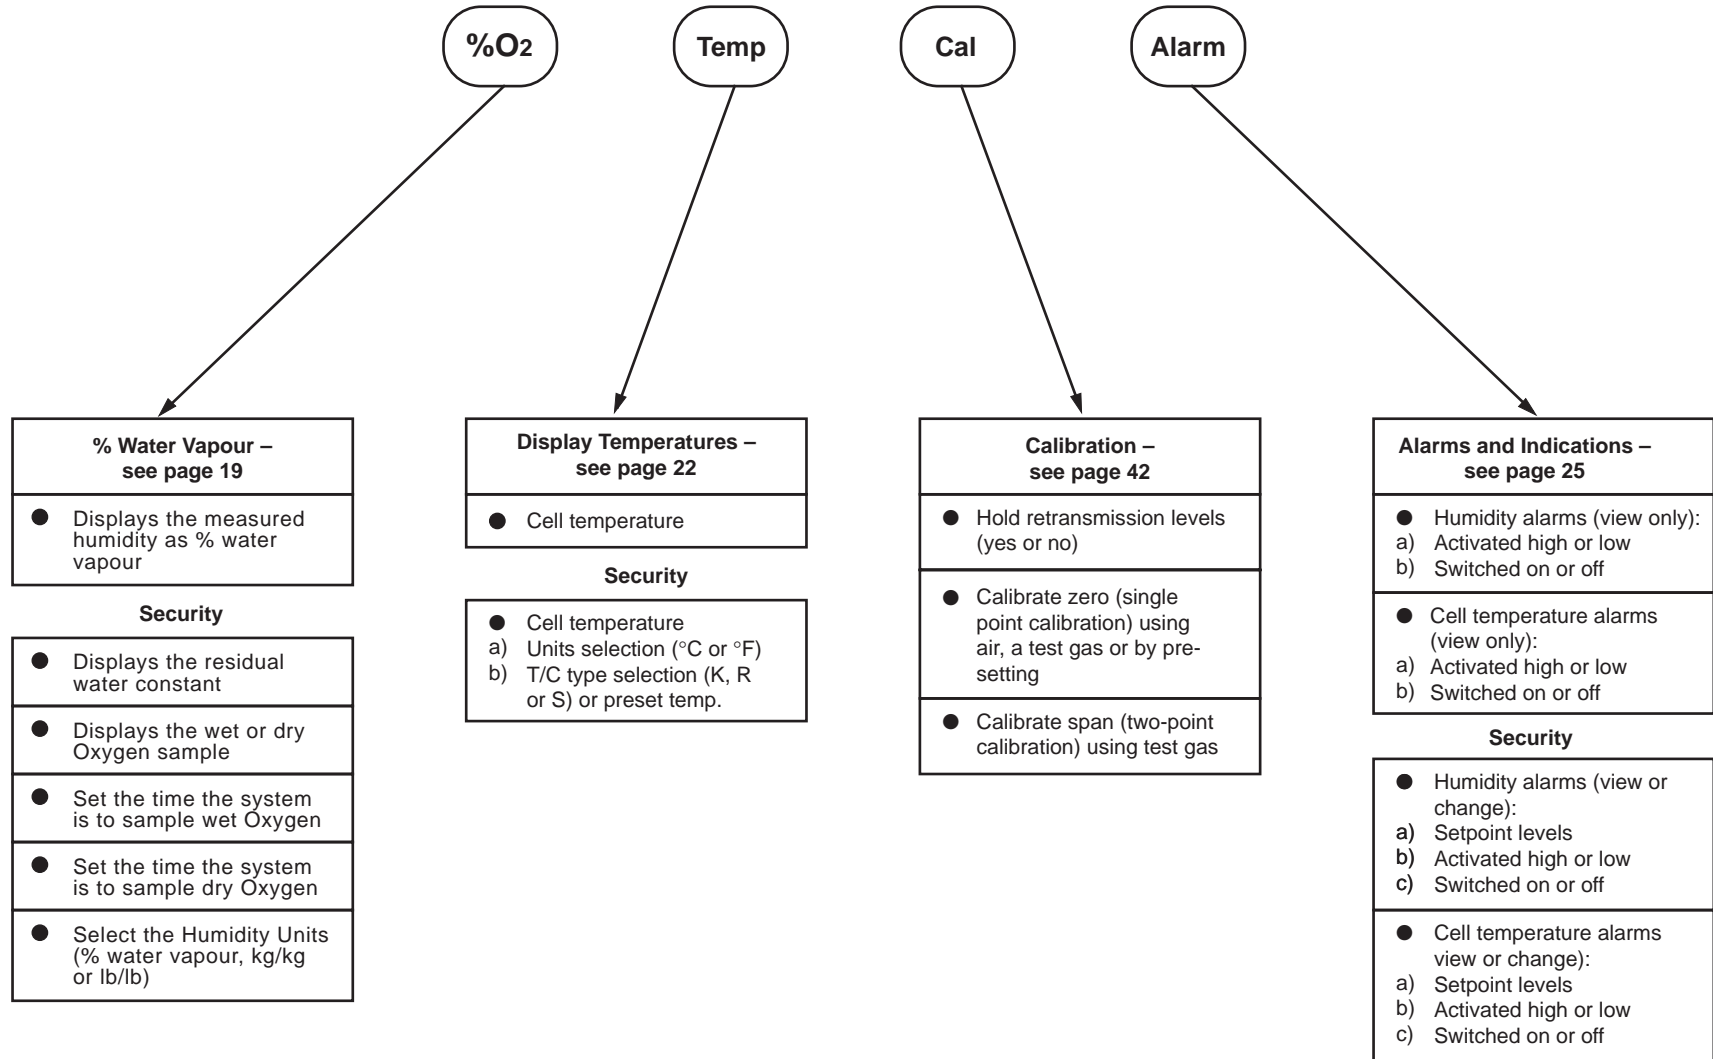

Fig. 10.2 Summary of User Pages
The overall programme chart is shown in Fig. 10.1. Refer to Figs. 10.2 (opposite) and 10.7 (on page 30) for summaries of the **User Pages** and the **Utility Pages**, respectively. The **Commissioning Page** parameters are programmed prior to despatch and cannot be accessed. For full commissioning procedures refer to the Commissioning and Calibration Manual, part no. ZMT/0012, Issue 4 onwards.
10.1.1 Access to Secure Parameters - Figs. 10.2 and 10.7